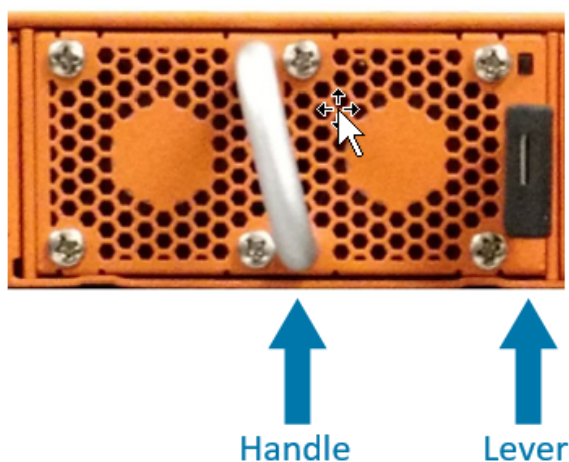

Figure 11 Replacing a Fan (GigaVUE-TA25 Shown)
1. Locate lever and handle as shown in Figure 11 Replacing a Fan \(GigaVUE-TA25 Shown\).